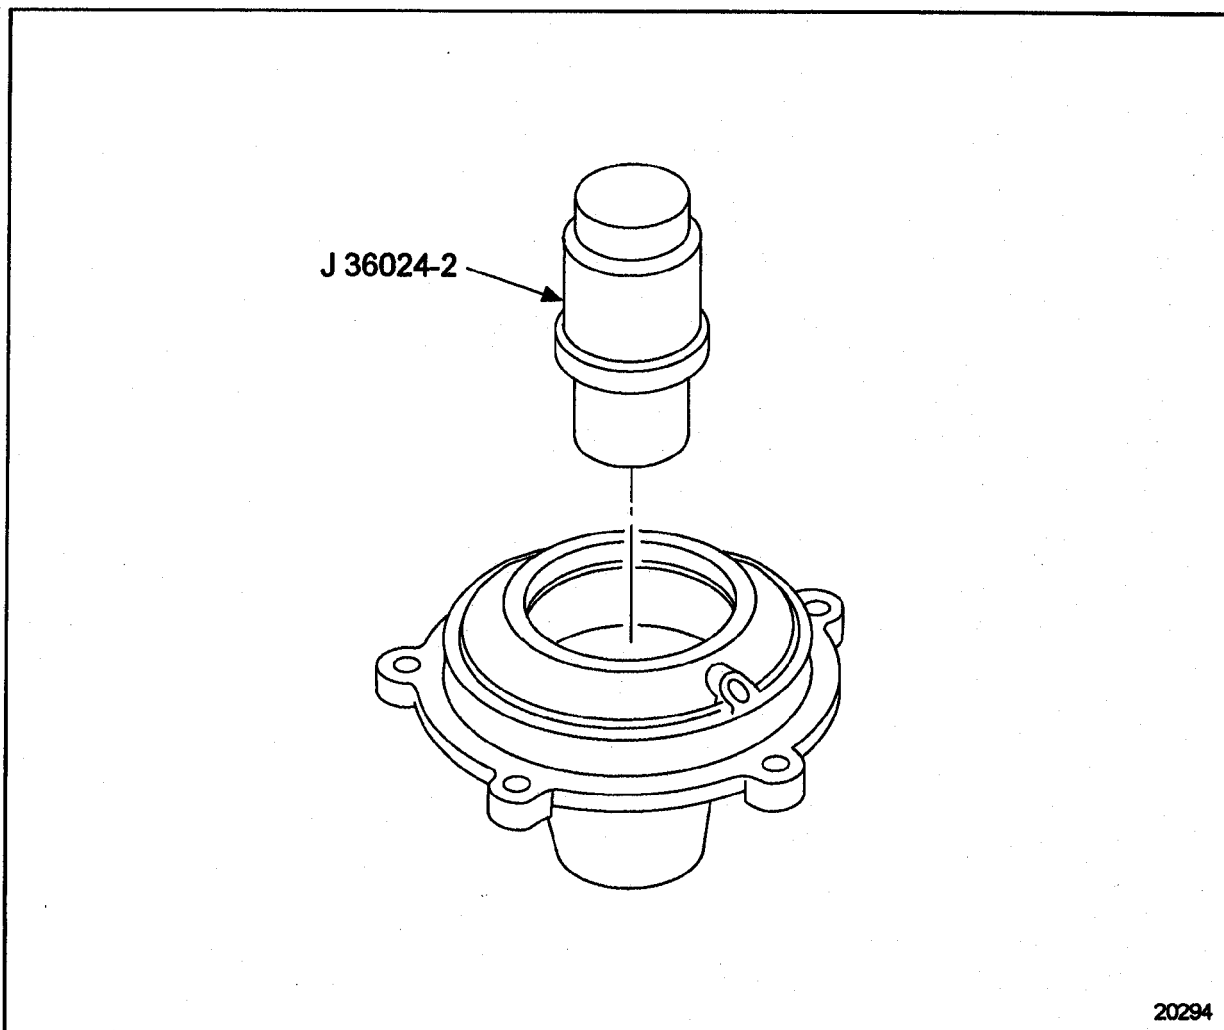

Figure 1-408 Needle Bearing Removal
11. Install J 36024-2 part of J 36024-C and apply pressure to J 36024-2 part of J 36024-C , to remove the needle bearing. See Figure 1-408.